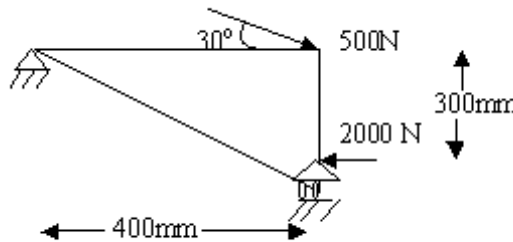

Figure 8
3. Estimate the displacement vector, stresses and reactions for the truss structure as shown below Figure8: